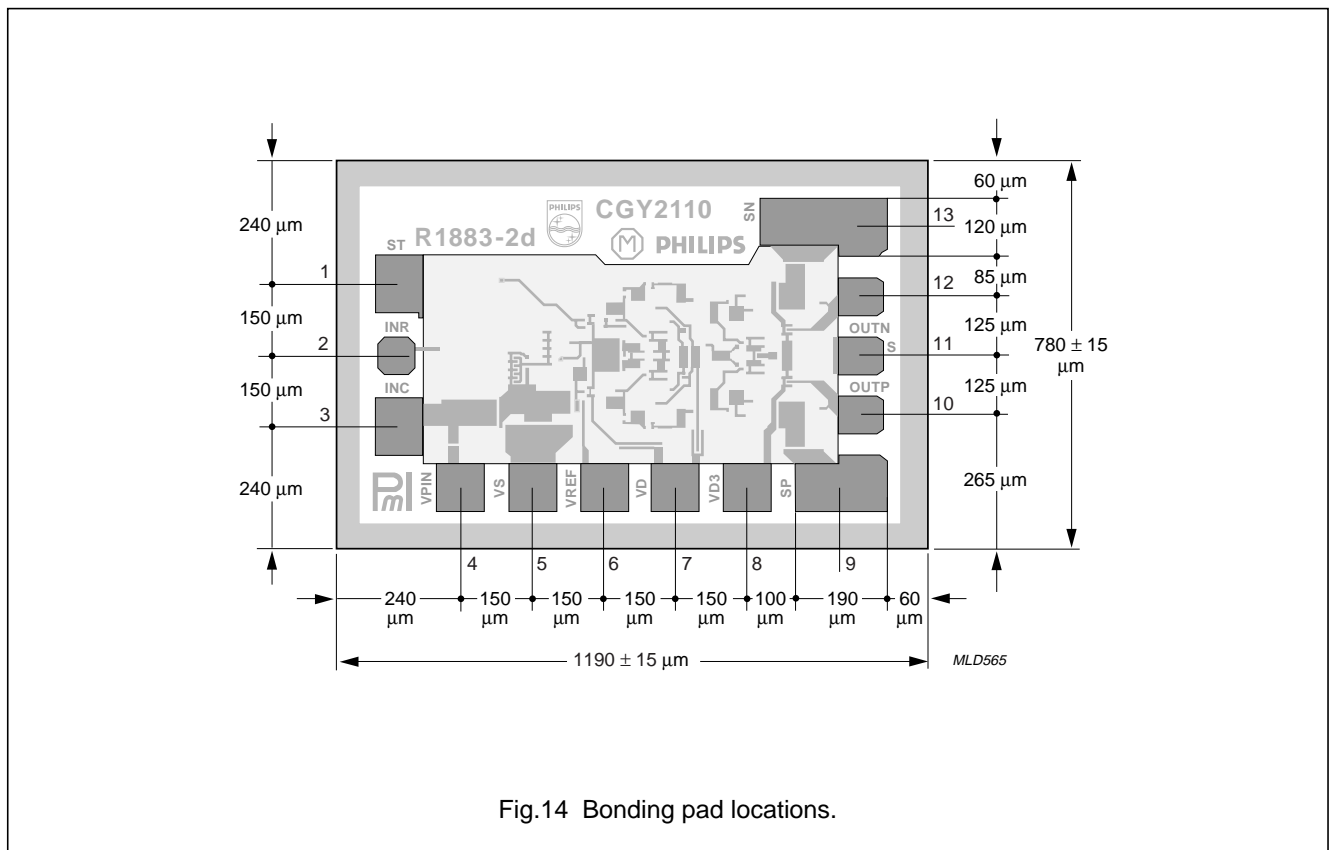

Fig.14 Bonding pad locations.
1. All x and y coordinates in μm represent the position of the centre of the pad with respect to the left bottom corner (see Fig.14).